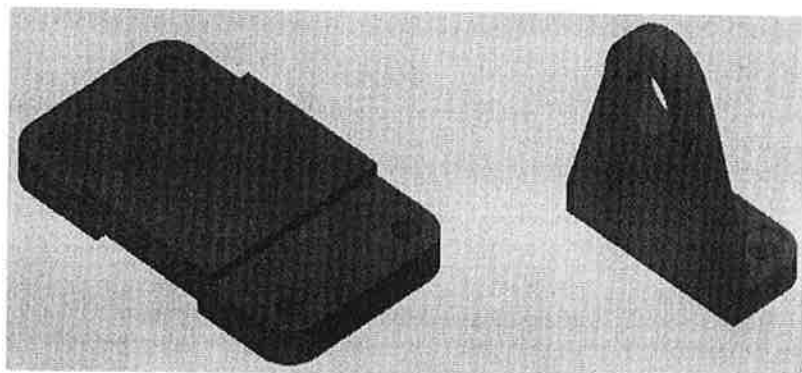

Figure 14-26
2. Using the Move triad that automatically displays, move the component similar to that shown in Figure 14-26 using both linear and rotational movements. This orientation makes reference selection easier when placing the joint. In the MOVE/COPY palette, click **OK** once the orientation is set.